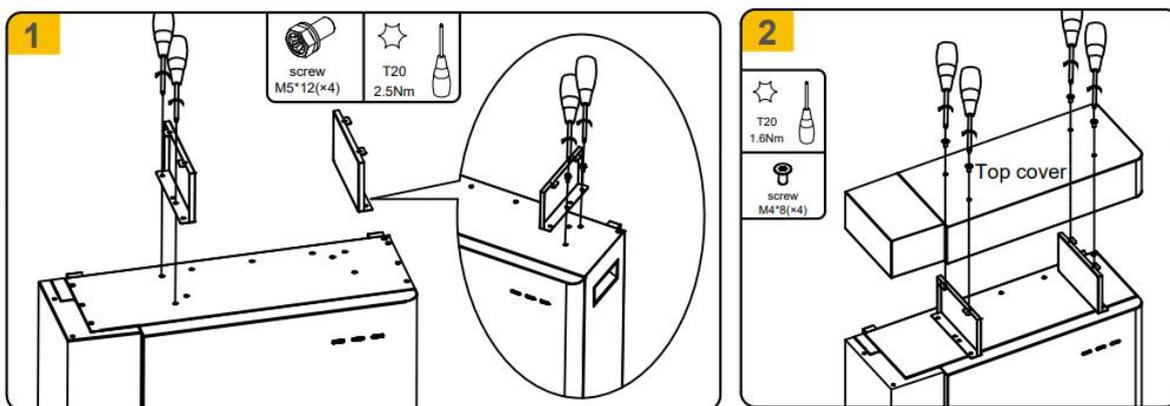

Figure 5-10 Battery top cover installation
2. Mount two top cover supports onto the top of the second column battery with four hexagon head screws M5\*12 (tool: T20 screwdriver, torque: 2.5 Nm). Refer to 1 in Figure 5-10.
4. Mount the top cover onto the top of two top cover supports with four countersunk head screws M4\*8 (tool: T20 screwdriver, torque: 1.6 Nm). Refer to 2 in Figure 5-10.